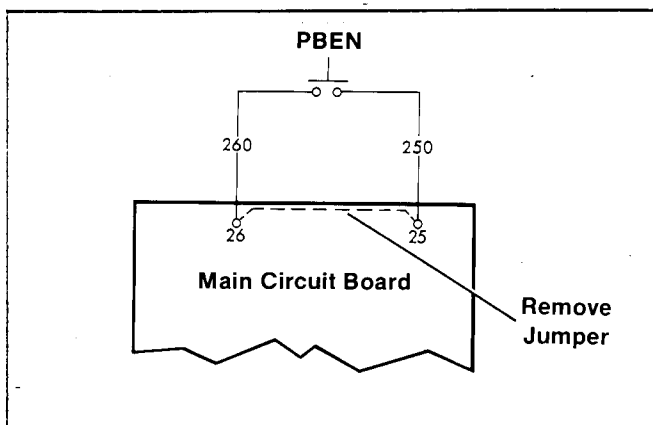

Figure 17. Manual (PBEN) Switch Connection
- **Acc. 29-C, E—Reset Switch** to manually retransfer the Automatic Transfer Switch to the normal source. See Figure 17 for connections.